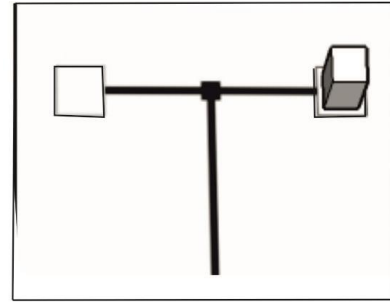

Figure 11: Garbage Placement
- Garbage is placed at the center of the specified Deposition Zone of dimension 8cm x 8cm as shown in Figure 11.